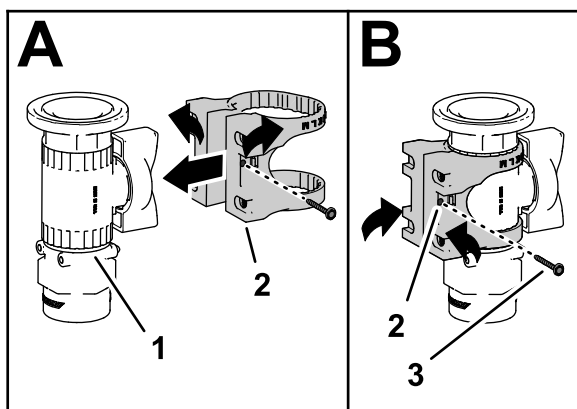

Figure 20
4. Assemble the valve mount onto a straight control valve as shown in A of Figure 20.
5. Secure the valve mount to the control valve with the flange-head screw (#6), and tighten the screw by hand (B of Figure 20).